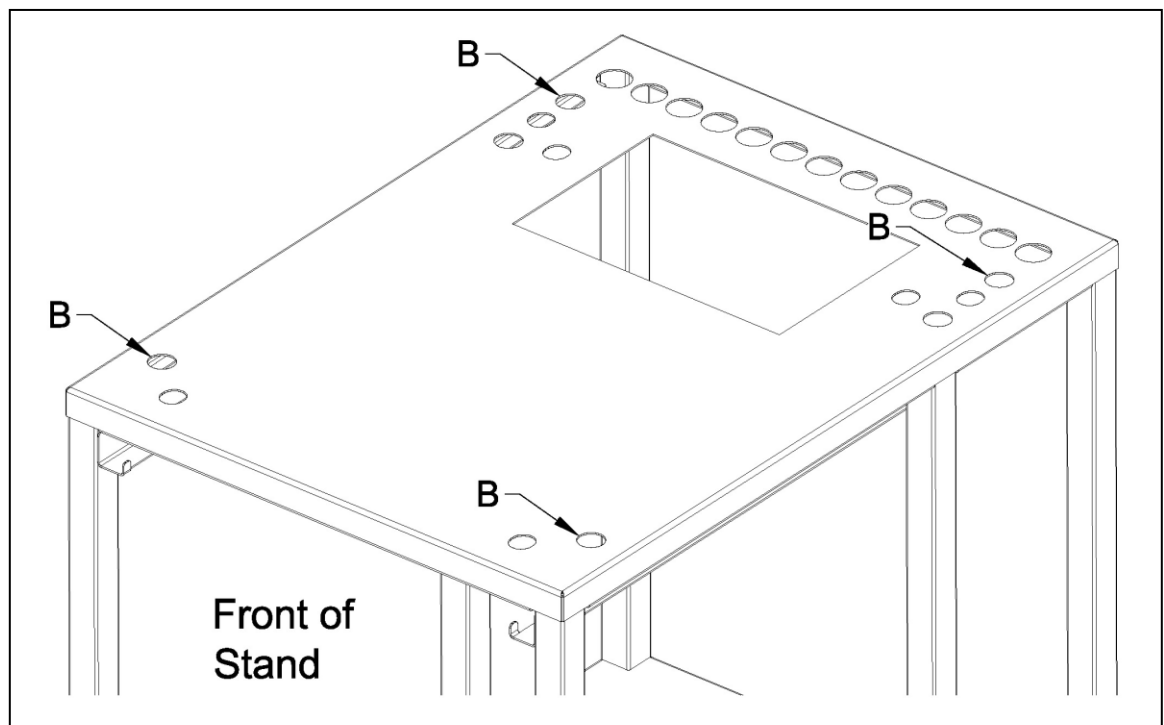

Figure 7
4. Align steamer so that mounting bolts come up through holes marked “B” in Figure 7 (Page 10)
5. Align steamer so that mounting bolts come up through holes marked "B" in Figure 7 below.